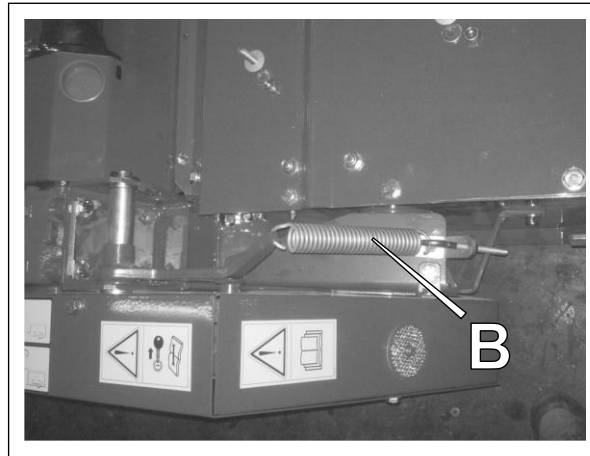

Fig. 5-31
**Fig. 5-31** The V-belts are tightened with a tension pulley. The tension pulley is tightened automatically by a spring **B**. The spring should be adjusted so that there is always at least a 1-2 mm gap between the spring coils.